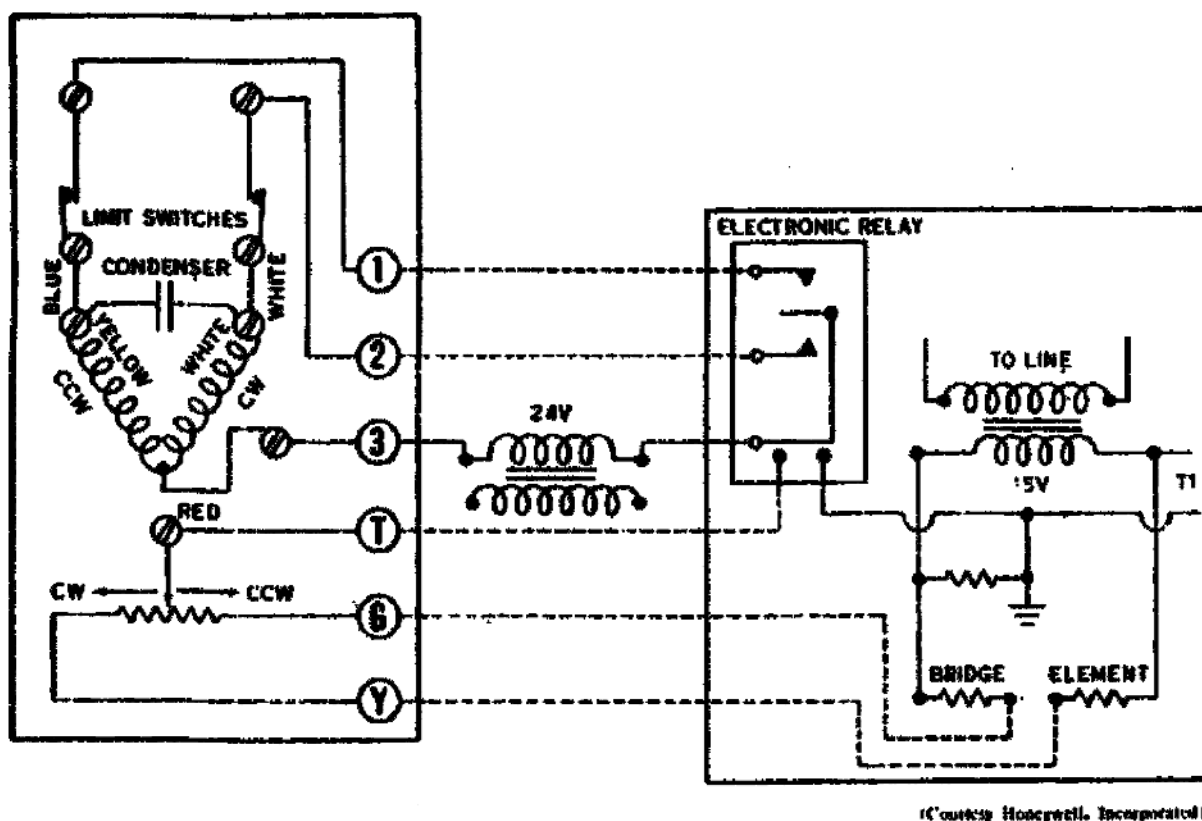

Figure 133. Damper motor schematic.
16. If the motor will not run, check the transformer output first. Look for the transformer in figure 133. If it checks out good, use the transformer to check the motor. Disconnect the motor terminals (usually numbered 1, 2 and 3) and connect the transformer output leads to terminals 2 and 3. The motor should run clockwise, if it is not already at that end of its stroke. Similarly, connecting the transformer across terminals 1 and 3 should drive the motor counterclockwise.